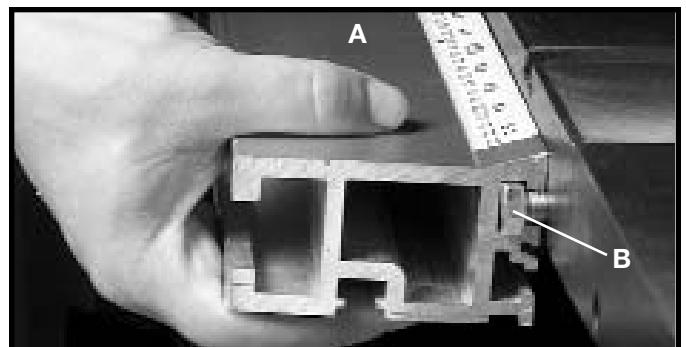
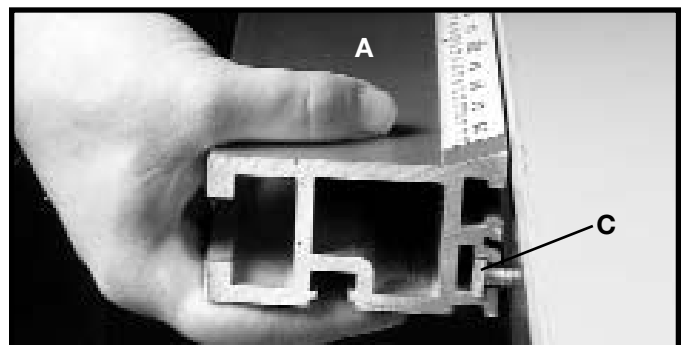

Fig. 21
Fig. 22
5. From either end, slide the T-Slot guide rail (A) Fig. 21, onto the hex head of the bolts partially inserted in step 2 and 3 above. **Note: The bolt heads on the saw table slide into the upper t-slot (B) Fig. 21 and the bolt head on the extension table slide into the lower t-slot (C) Fig. 22.**